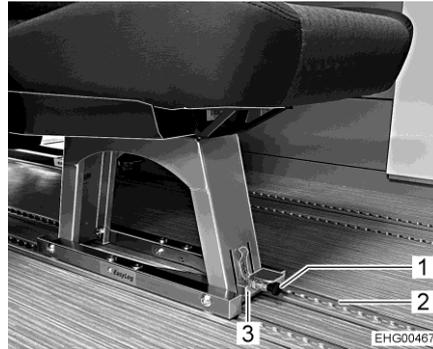

Fig. 6 Individual seat (locked)
- Pull the black handle (Fig. 6,1) forwards.
- Pull the metal clip (Fig. 6,2) upwards.
The individual seat / double bench can now be shifted in the rail (Fig. 6,2) or lifted out of the rail.